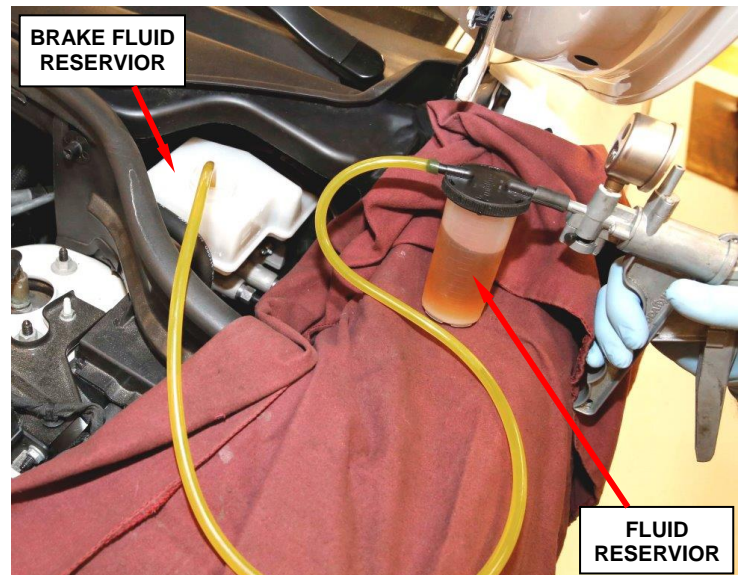

Figure 2 – Fluid Removal with Suction Gun
1. Drain small amount of brake fluid from the master cylinder brake reservoir with a **clean** suction gun (Figure 2).